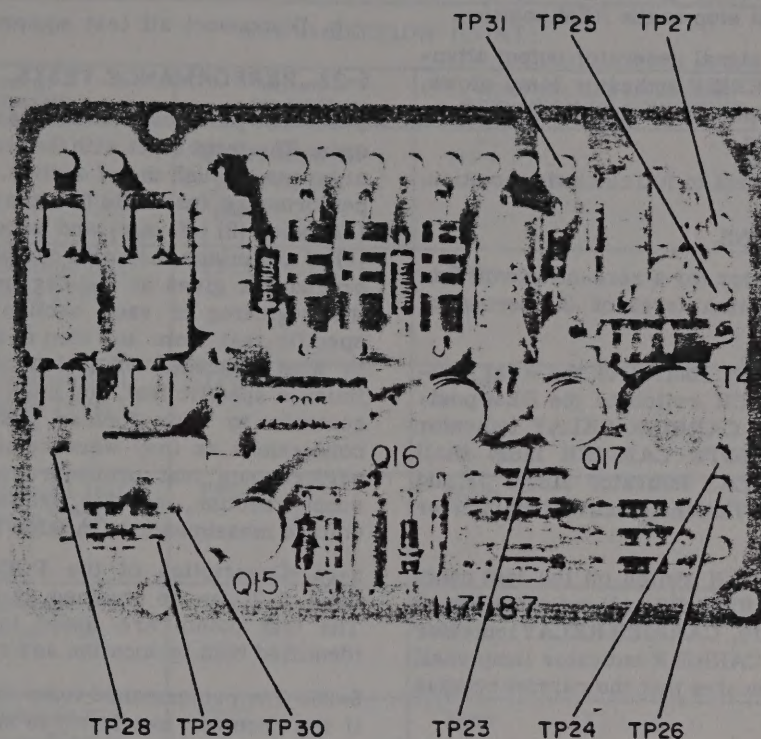

Figure 5-3. Power Supply and Audio Circuit Board, Test Point Locations
g. Refer to figure 5-3, use the vtvm, and measure the voltage from test point TP31 to chassis ground. The vtvm shall indicate +20 volts dc,  $\pm 5$  percent.
| 1B                   | Connect the oscilloscope 10:1 attenuator probe to TP23, figure 5-3.                                                                                                                                                                                                                           | TP23                           | None                                                 | 3.5 $\pm$ 0.35 volts peak-to-peak |
| 1C                   | Connect the oscilloscope 10:1 attenuator probe to TP24, figure 5-3.                                                                                                                                                                                                                           | TP24                           | None                                                 | 1.2 $\pm$ 0.1 volts peak-to-peak  |
| 1D                   | Connect the oscilloscope 10:1 attenuator probe to TP25, figure 5-3.                                                                                                                                                                                                                           | TP25                           | None                                                 | 1.2 $\pm$ 0.1 volts peak-to-peak  |
| 1E                   | Connect the oscilloscope 10:1 attenuator probe to TP26, figure 5-3.                                                                                                                                                                                                                           | TP26                           | None                                                 | 28 $\pm$ 2.8 volts peak-to-peak   |
| 1F                   | Connect the oscilloscope 10:1 attenuator probe to TP27, figure 5-3.                                                                                                                                                                                                                           | TP27                           | None                                                 | 28 $\pm$ 2.8 volts peak-to-peak   |